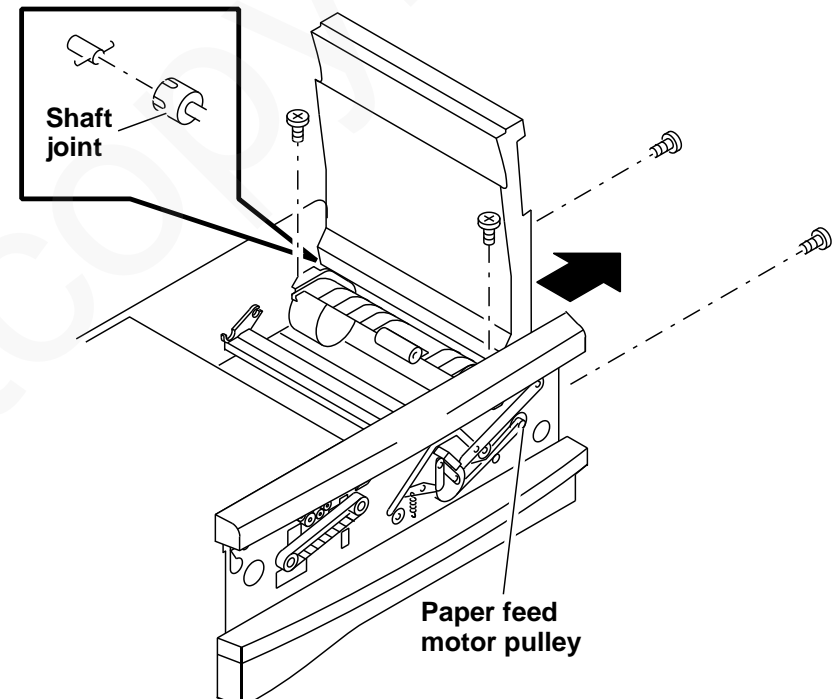

Figure 9. Paper guide assembly removal
- b. Remove thermal head position linkage drive belt from paper feed motor pulley (Figure 9).